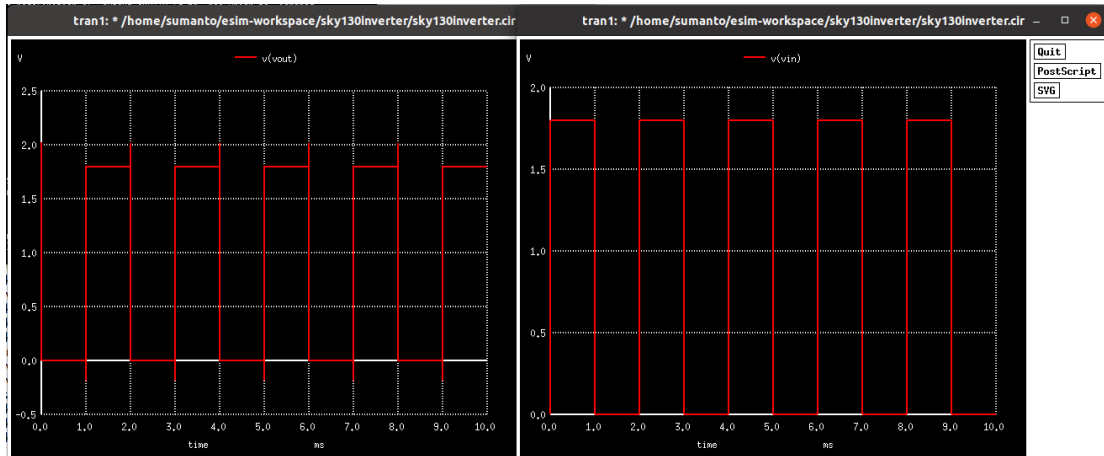

Figure 9.10: Simulation Results of CMOS Inverter using SKY130
- Refer Fig. 9.10 for the simulation results of the CMOS Inverter using SKY130.